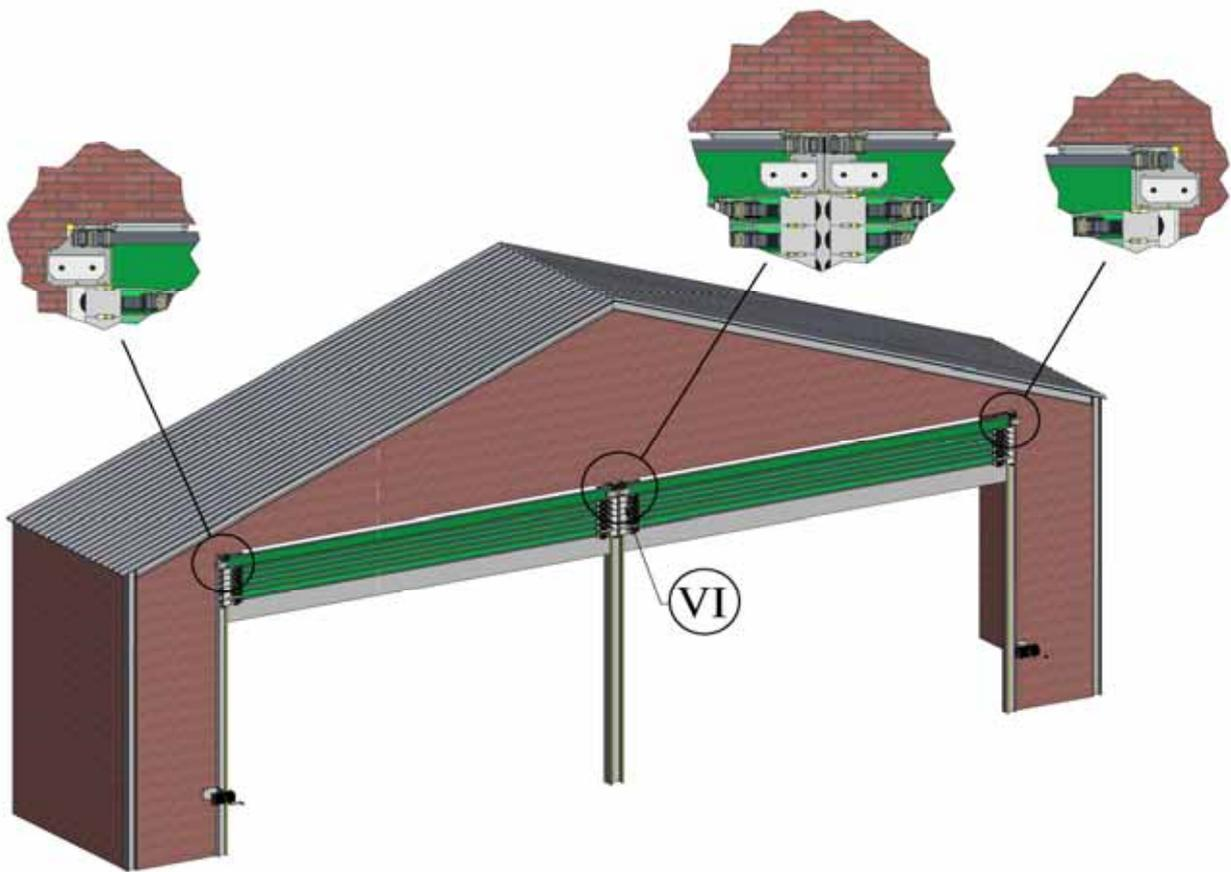

Figure 9a. Drives on left and right
9. Figures 9a through to 9c show three manual drive fitting locations for adjacent doors.
- ❖ If the two drives can be positioned on extreme left and right then the minimum width of the central tracking is 250mm (Figure 9a).